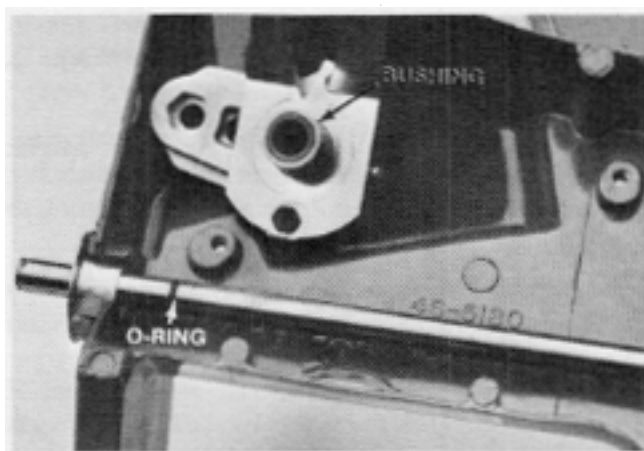

Figure 56
3. Press the oil impregnated bushing into the boss on the pivot arm until it is flush with the face of the boss. See Figure 56.